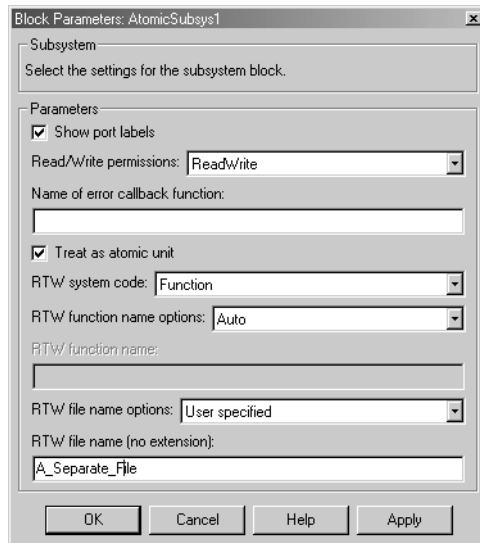

Figure 4-4: Subsystem Function Code Generation with Separate User-Defined File Name
Figure 4-4 shows the **Block Parameters** dialog with the Function option selected.
- 2 If the subsystem is virtual, select **Treat as atomic unit** as shown in Figure 4-4. This makes the subsystem atomic, and the **RTW system code** menu becomes enabled.
- 3 Select **Function** from the **RTW system code** menu as shown in Figure 4-4.
Figure 4-4 shows the use of the UserSpecified filename option.